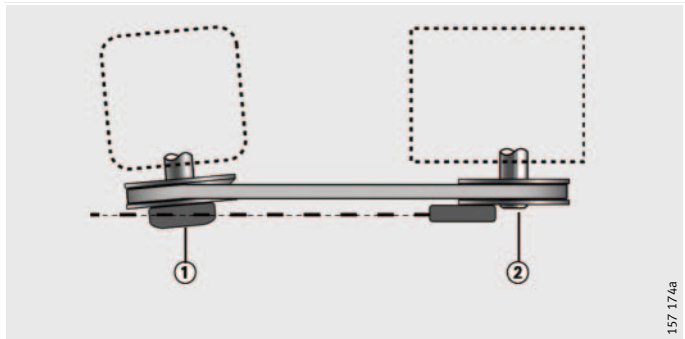

Figure 3
- Fasten the measuring device to the fixed section of the machine, and the digital target mark to the adjustable section of the machine, *Figure 3*.